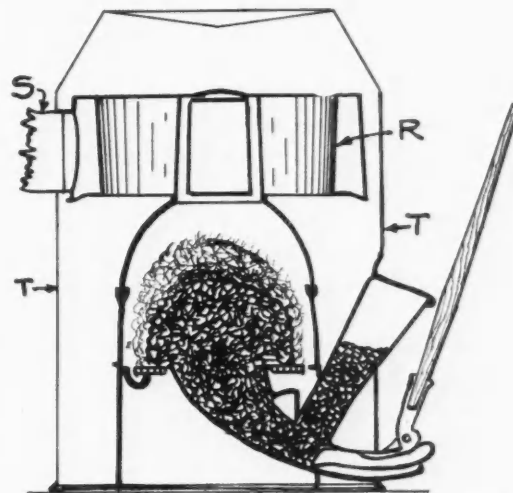

Fig. 4. Warm Air Furnace Arranged to Feed From Below.
“This type of heater is constructed for furnace use as indicated in Fig. 4, the coal being placed in the hopper in the same manner as previously described and the fire pot having a cast-iron radiator (R) set on the top, through which the hot gases pass on the way to the smoke pipe connection (S). The whole apparatus is encased in the furnace casing (T), which keeps the air in contact with the fire pot and radiator, so as to heat it rapidly. The hot-air pipes are taken from the top of this furnace in exactly the same manner as the ordinary furnace, and its operation is exactly the same, the only exception being the increased efficiency due to the fire always being bright and its ability to consume satisfactorily the cheaper grades of fine coal that it is not possible to burn on the ordinary grates.